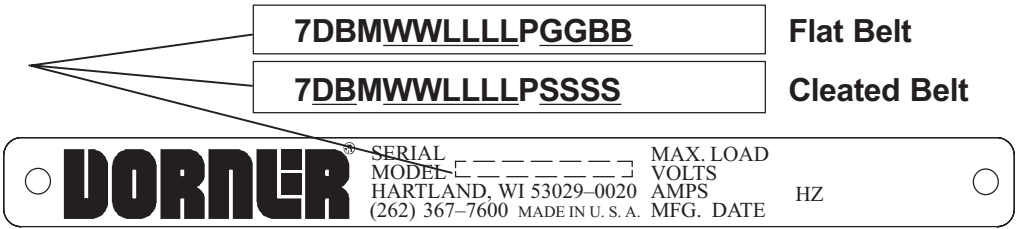

Figure 49
Refer to your serial and model number plate (Figure 49). From the model number, determine conveyor width (WW), length (LLLL), and belt type (BB). Use data to configure belt part number as indicated below.
Refer to your serial and model number plate (Figure 49). From the model number, determine conveyor type (D), width (WW), length (LLLL), belt cleat type (B), and cleat spacing (SSSS). Use data to configure belt part number as indicated below.